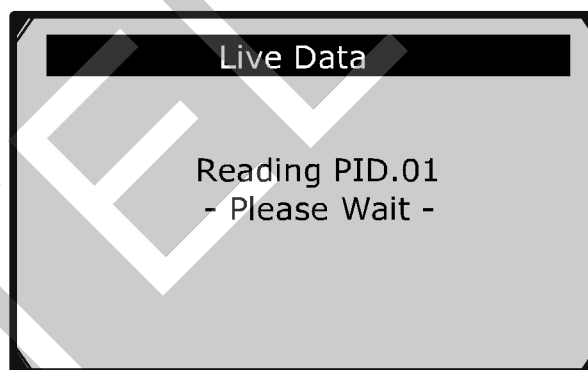

Figure 6.9
- 2) Wait a few seconds while the scan tool validates the PID MAP. (Figure 6.9)